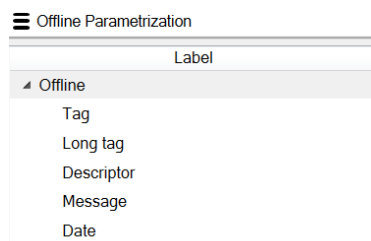

Figure 17: Offline Parameterization
*Parameterization* shows the offline parameterization of the Digital EPIC D200. It is used to access information when the device is offline. Information can be downloaded when the device is online again. Under this menu, the following five options are available (**Figure 17**):